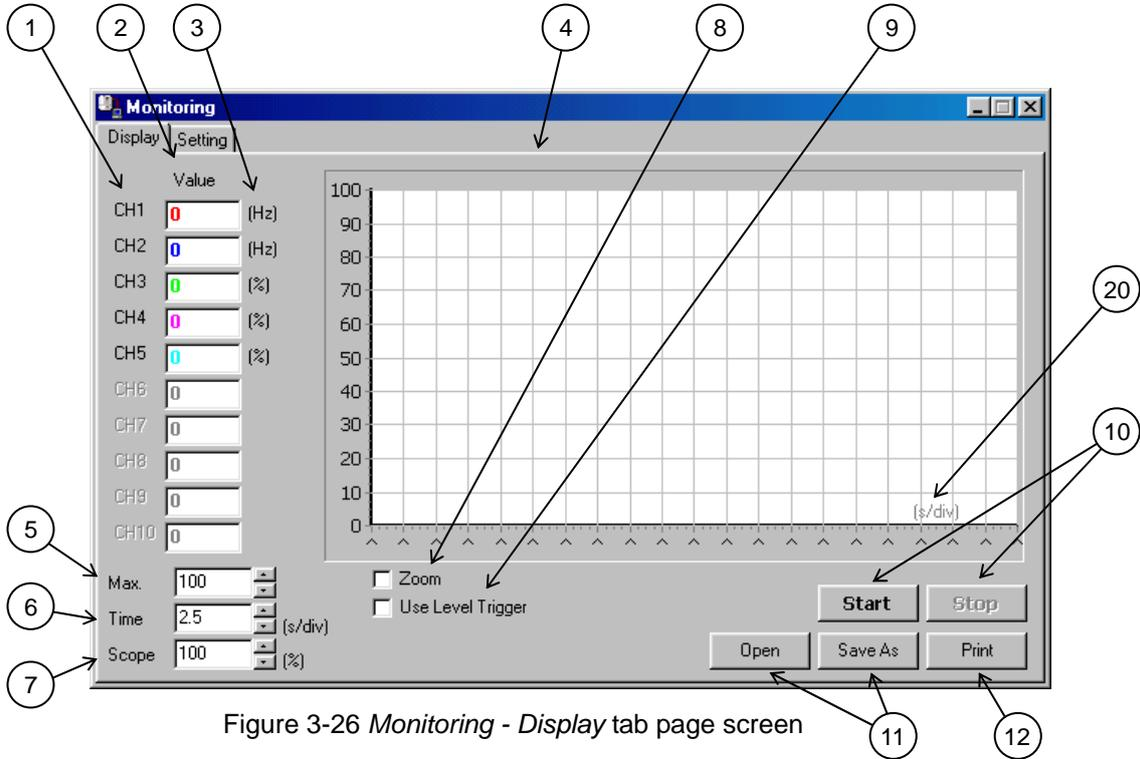

Figure 3-26 Monitoring - Display tab page screen
Trigger level: This can be set dragging the trigger level marker (5) with the mouse, or is set up using "Trigger Setting" - "Level (figure 3-26 (19))".